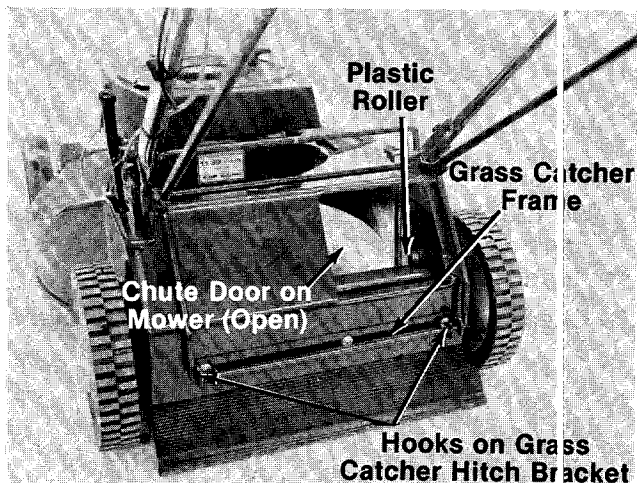

FIGURE 13.
1. Attach the grass catcher frame to grass catcher hitch bracket on rear of the mower by hooking grass catcher into hooks on grass catcher hitch bracket. See figure 13.
2. Lift the rear of grass catcher up. The roller on the grass catcher will push the chute door on the mower open. See figure 13.
Figure 13 is shown with the chute door open for photo clarity only.